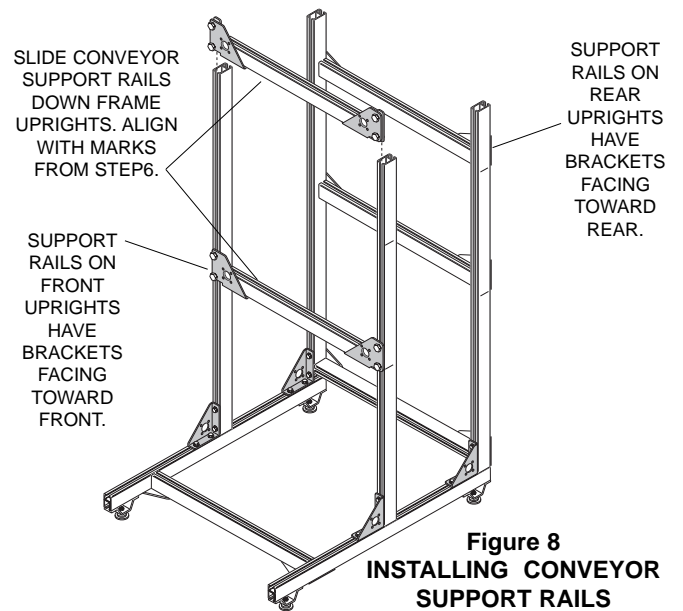

Figure 8
8. Install conveyor support rails by sliding brackets down uprights until bottom of brackets are on marks made in Step 6. Finger tighten bolts to hold on marks (Fig. 8, next column).